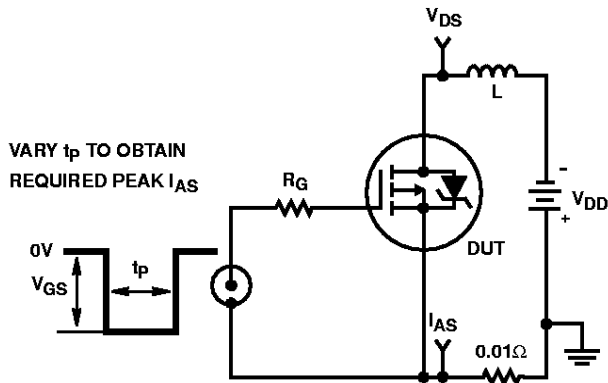

FIGURE 15. UNCLAMPED ENERGY TEST CIRCUIT
- $V_{DD} = 25\text{V}$ , starting  $T_J = 25^\circ\text{C}$ ,  $L = 5.2\text{mH}$ ,  $R_G = 25\Omega$ , peak  $I_{AS} = 12\text{A}$ . See Figures 15, 16.